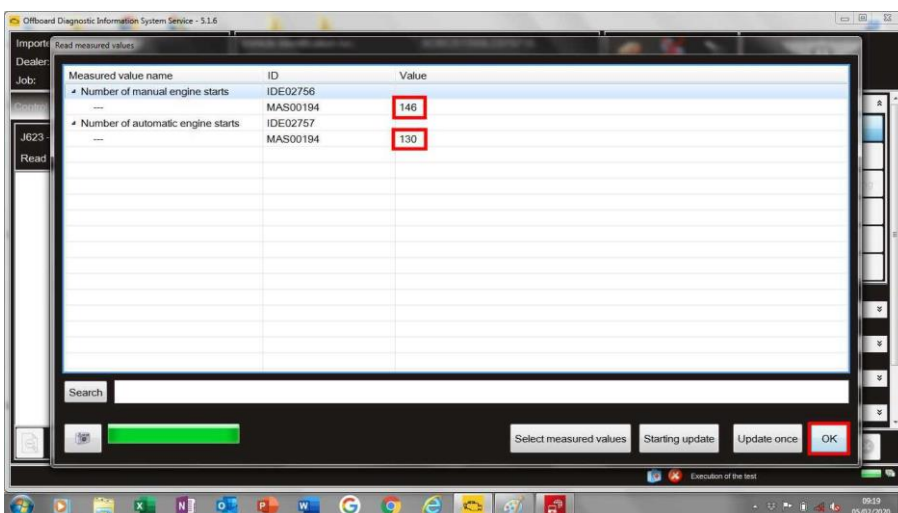

Figure 5
- Note the values of **"IDE02756"** and **"IDE02757"** and add this information to the DISS query, select **"OK"** – Figure 5.